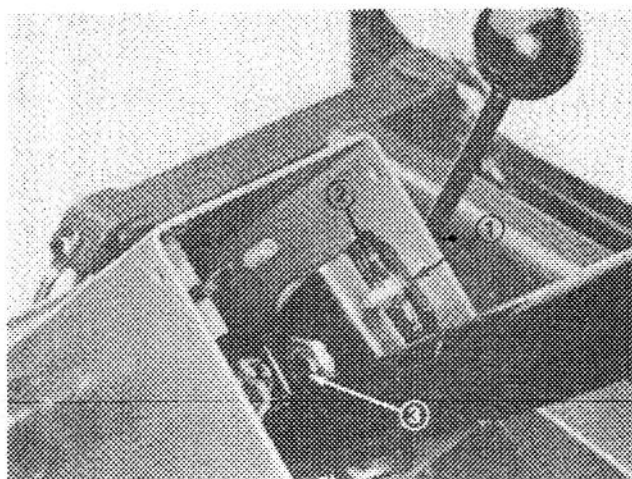

Figure 57
1. Remove knob from parking brake and self tapping screws from steering column cover. Slide cover up steering shaft to expose pivot bracket (Fig. 57).
2. Loosen small nut, rotate pivot bracket until it tightens large nut below (Fig. 57). Retighten small nut.